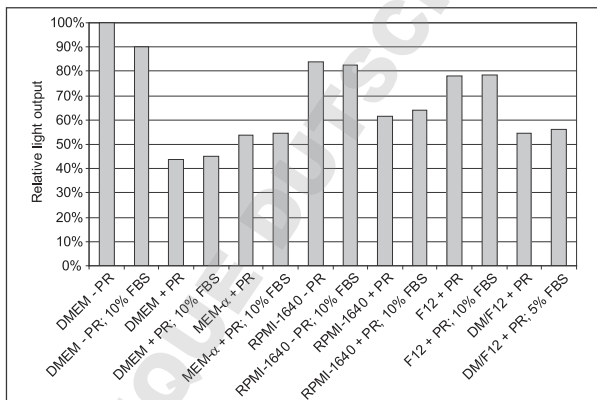
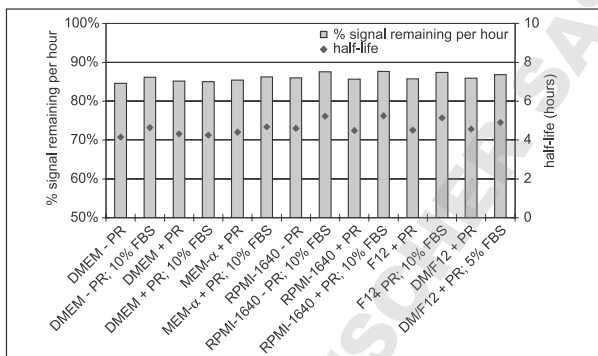

Figure 4: Relative light output in different media
Figure 5: Signal stability in different media expressed as a percentage of signal remaining per hour and half-life (hours)
To assess the influence of different culture media on luminescence light output, the following experiment was performed using commercially available basal media in the presence and absence of Fetal Bovine Serum (FBS) and Phenol Red (PR). 100 μL *steadylite plus* was added to 100 μL samples of the different media in a white 96-well OptiPlate, where each sample contained luciferase at a concentration of 2×10^{-9} gram per mL. After shaking the plate, the light output was measured using a TopCount NXT. Figure 4 illustrates the results of the relative luminescence after 15 minutes count delay. Figure 5 shows the results of the stability of the signal as a function of the culture media used.
The results from Figure 4 show that the light output is to some extent affected by FBS but that Phenol Red has a much larger impact on the light output reflecting the concentrations of Phenol Red in the basal media. Consequently the use of Phenol Red in culture media should be avoided to attain the highest signal. The stability of the luminescent signal is only somewhat dependent on the media as shown in Figure 5.
- Phenol Red, as well as other colored compounds, will chemically not interfere with the luciferin/luciferase reaction, but will quench some of the emitted light, resulting in lower assay signals (see Figure 4). For optimal light output, the culture medium can be substituted with **Dulbecco's PBS containing calcium and magnesium ions** prior to the addition of steadylite plus.